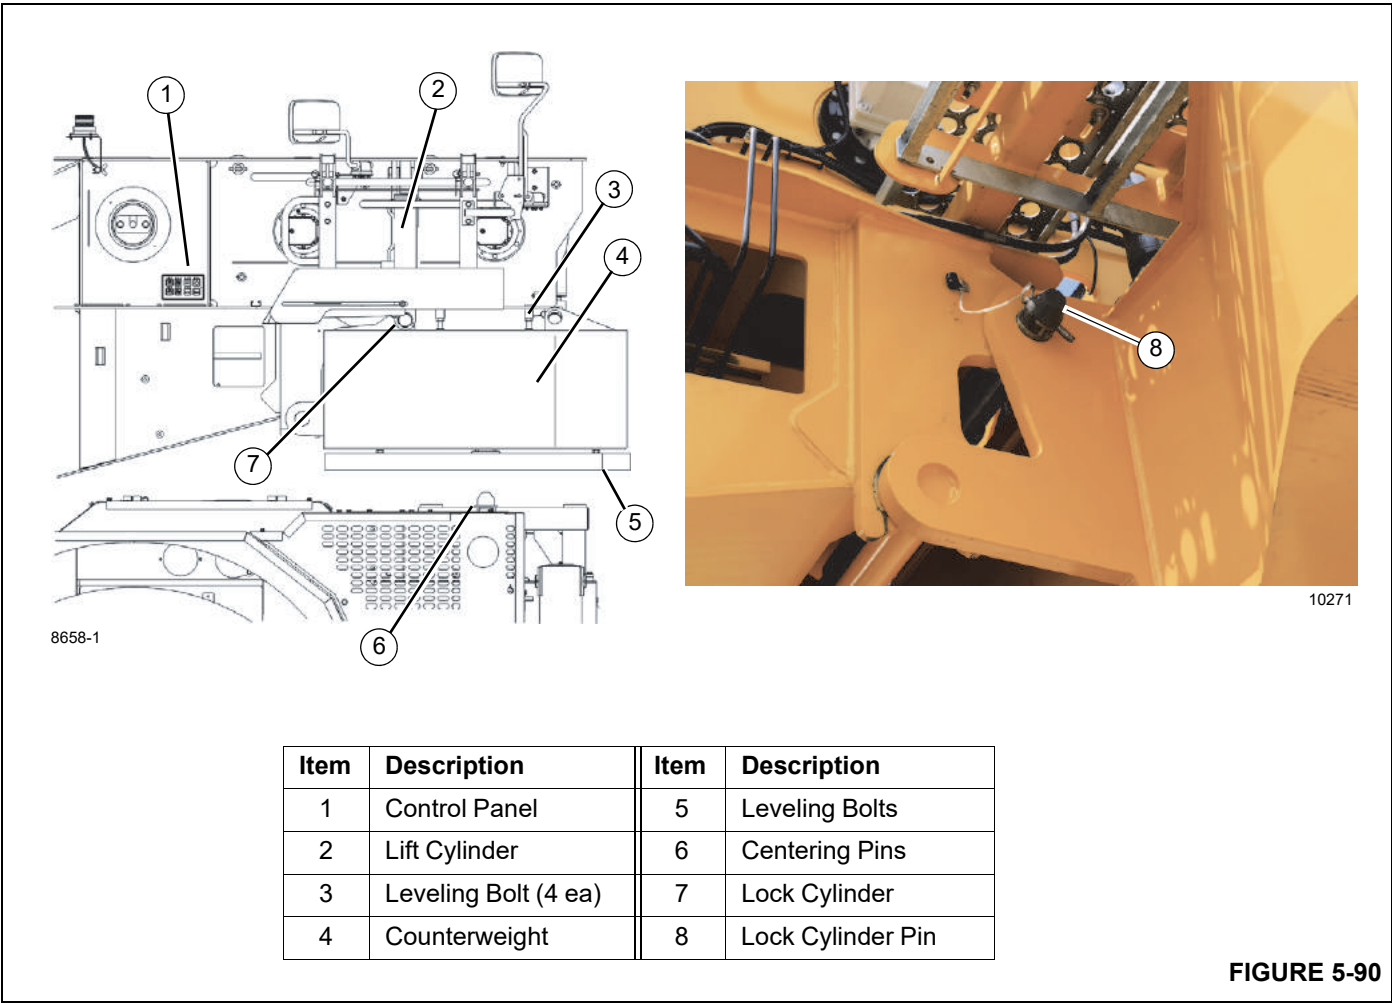

FIGURE 5-90
4. Remove pin clips from lock cylinder pin (8, Figure 5-90) on each side of superstructure.
5. Press and release Enable button (2). Press and hold Lock Cylinder Retract button (4) until lock cylinder pins are completely retracted.
6. Check area is clear around counterweight and carrier rear deck. Press horn button (3).
10. Press and release Enable button (2). Press and hold Lock Cylinder Extend button (5) until lock cylinder pins (8, Figure 5-90) are completely extended.